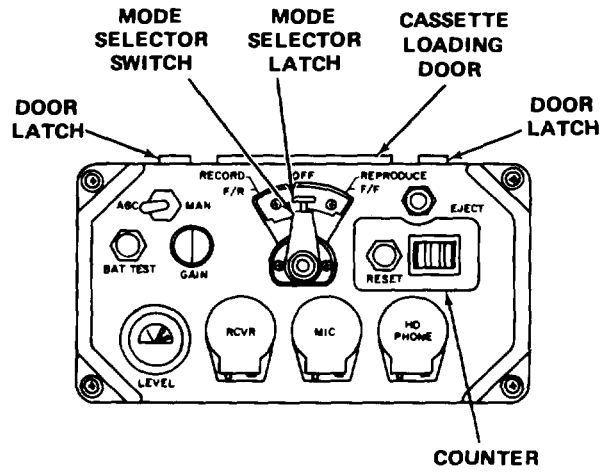

Figure 2-3. Sound Recorder/Reproducer AN/PNH-7 Controls and Instruments
c. Sound Recorder/Reproducer AN/PNH-7 (figure 2-3) Mode selector switch	Switch permits manual selection of any one of four operating modes. Returning mode selector switch to OFF from any operational modes disables all functions and disconnects power source.